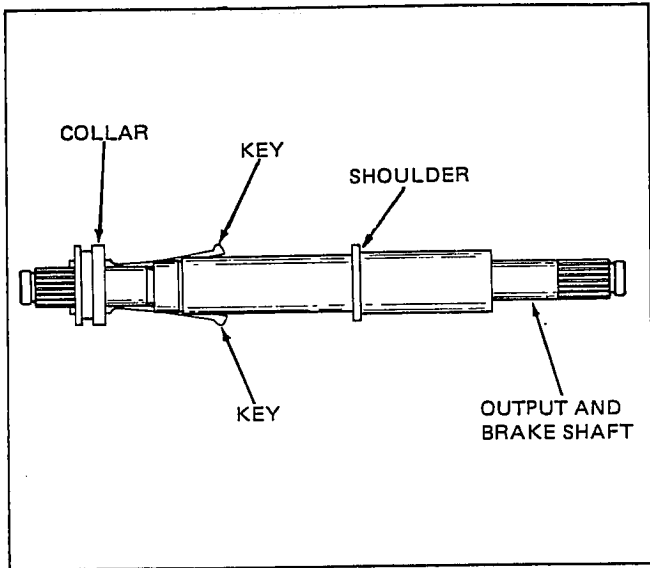

Figure 2-49
2. Install collar and keys on output shaft as shown in Figure 2-49. Thick side of collar MUST face shoulder on Shaft as shown in Figure 2-49.